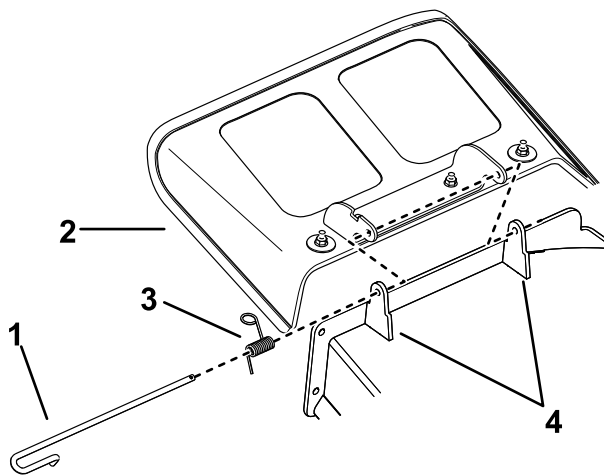

Figure 79
1. Disengage the spring from the notch in the deflector bracket and slide the rod out of the welded deck brackets, spring, and discharge deflector (Figure 79).